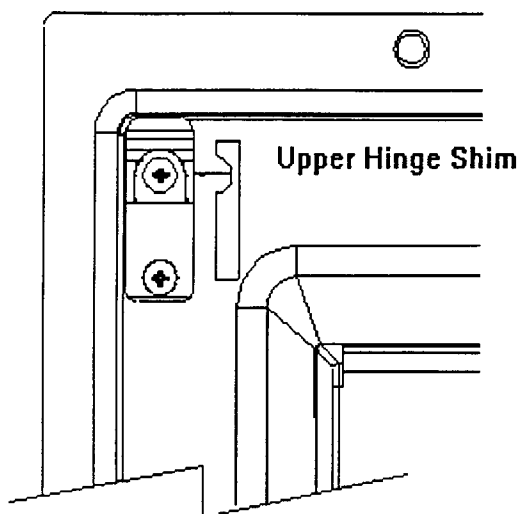

Figure 1
2. Fully tighten shoulder screws at locations shown in Figure 1. If excessive play is still present check serial number of product.
- b) Screws must be loosened enough to allow a shim approximately 1/16" thick to be slid under the inside edge of the hinge (see Figure 1).